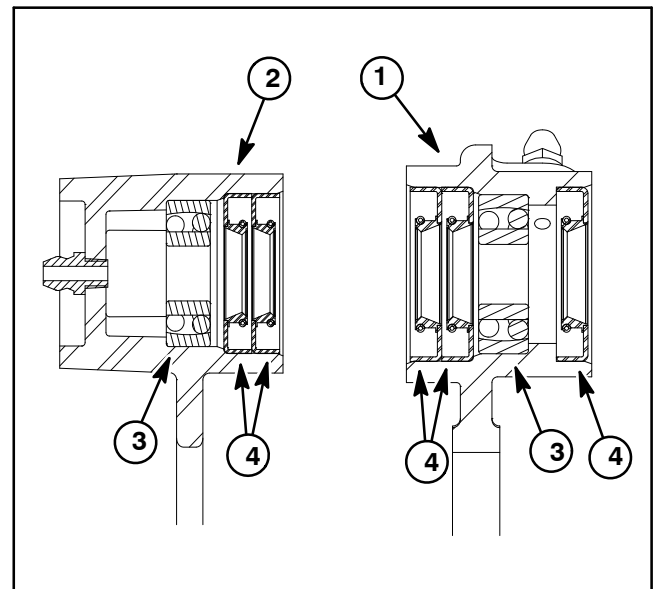

Figure 5
1. If seals, bearings or bushing was removed from groomer plates, install new components noting proper orientation as shown in Figure 5.
E. If groomer studs (not shown) were removed from groomer plate (item 17), install new studs into groomer plate and torque from **14 to 18 ft-lb (19 to 24 N-m)**.